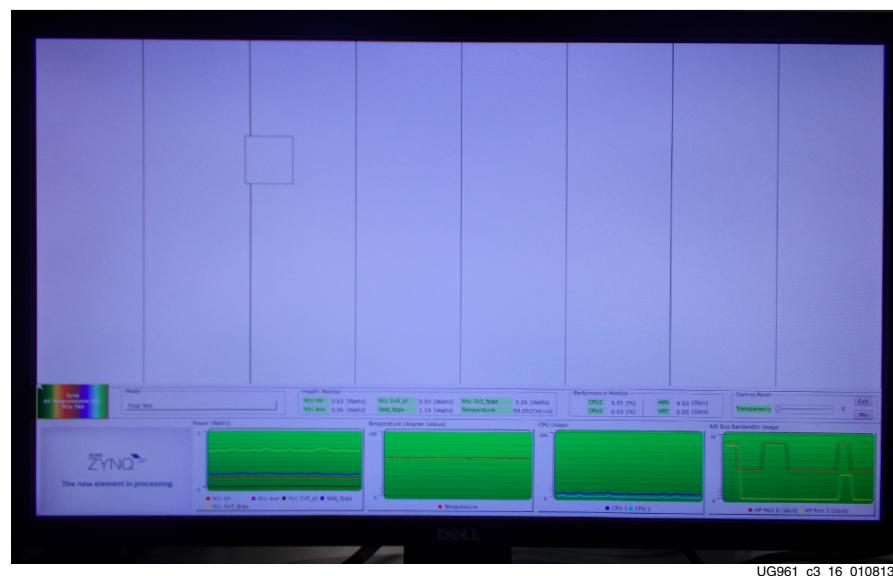

Figure 3-16: HDMI Display for Sobel Output Display
7. For the options Sobel Filter: **Sobel-HW** and Video Out: **HDMI**, video data from the PCIe host system is directly processed by the edge detection Sobel filter in the PL based on **Max** and **Min** threshold values selection provided through the host GUI, then sent to the display. Edges of the color bar pattern appear on the display as shown in Figure 3-16 for this option without invert option. Optionally, the Sobel output video can be inverted by selecting **Invert** check box on the GUI.